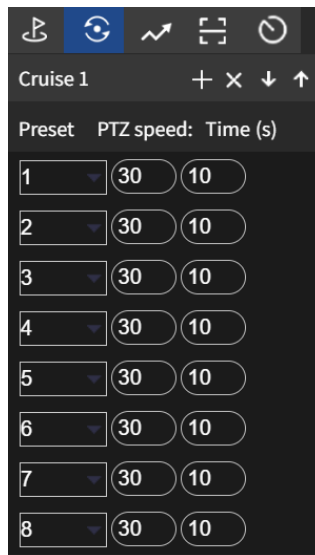

Figure 2-12 Configure Presets
- 4. Configure the preset number, Cruise time and cruise speed in Figure 2-12